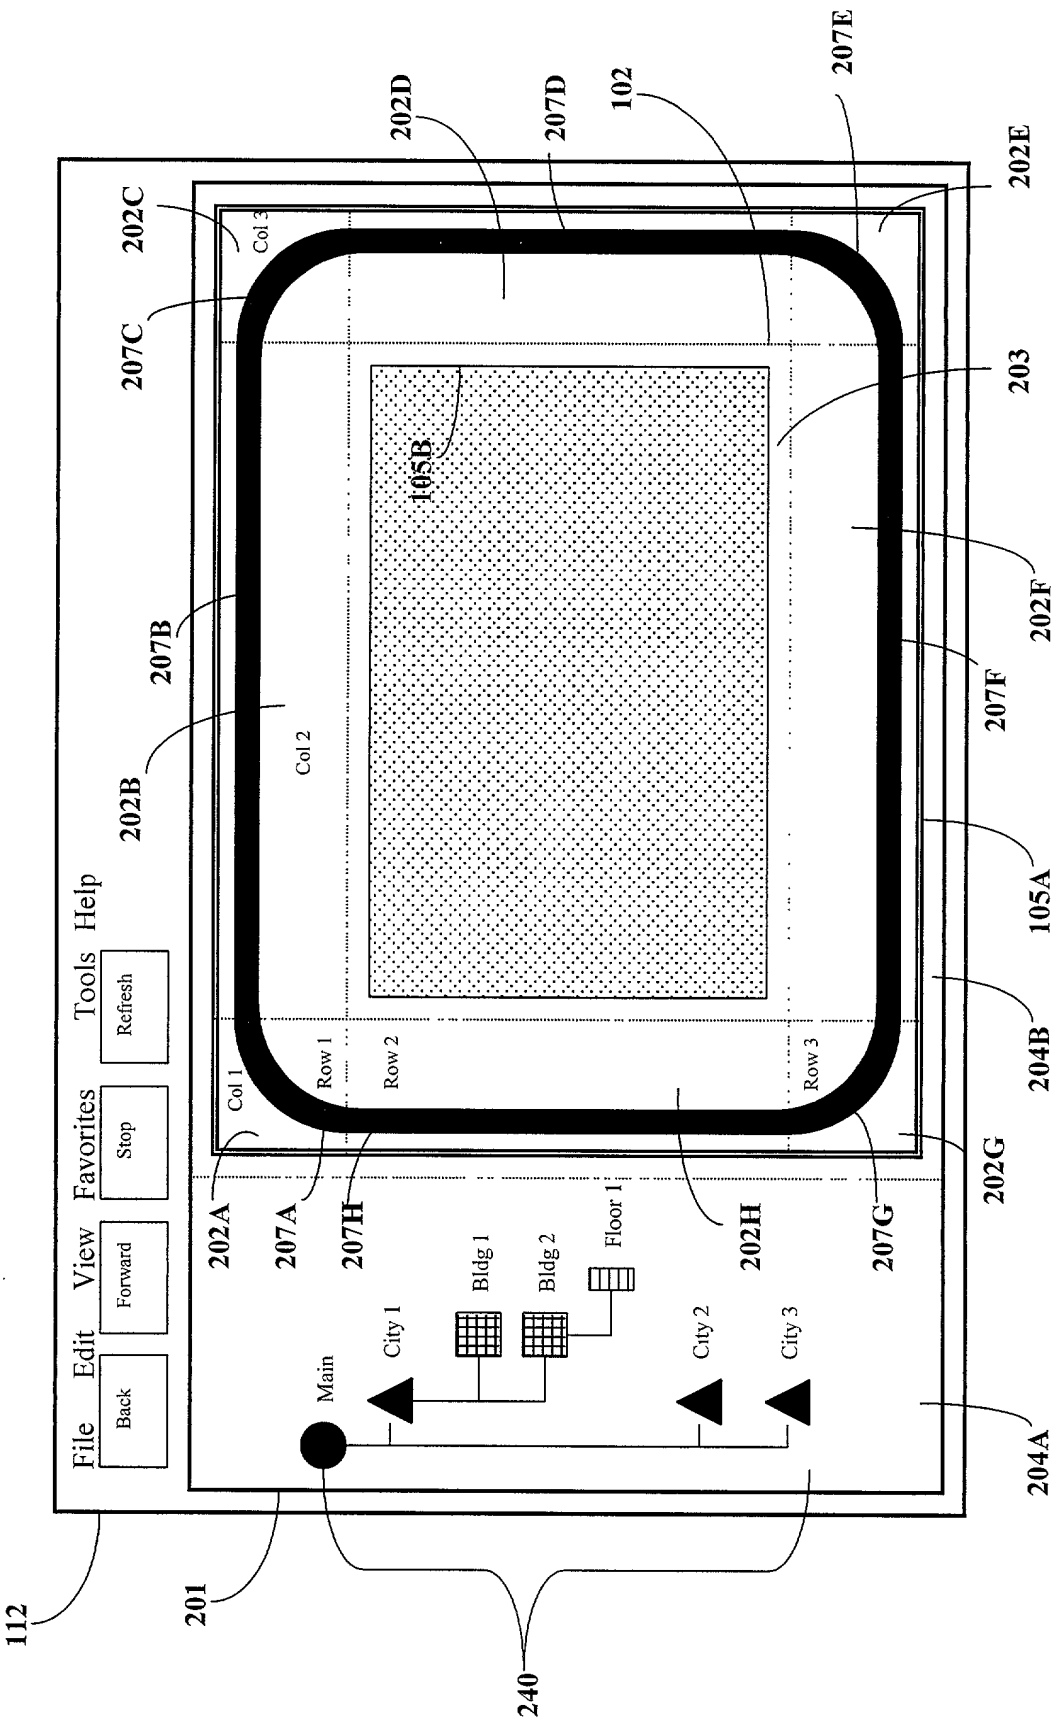

FIG. 2
FIG. 2 is a schematic diagram of a user interface for a data visualization application. The interface includes a menu bar (112) with options: File, Edit, View, Favorites, Tools, and Help. Below the menu bar is a toolbar (201) containing buttons for Back, Forward, Stop, and Refresh. The main display area (202) is divided into a header section (202A) and a content section (202B). The header section (202A) contains a navigation pane (207A) with a tree view showing a hierarchy: Main (selected), City 1, City 2, and City 3. City 1 is expanded, showing Bldg 1, Bldg 2, and Floor 1. The content section (202B) displays a data table (102) with a grid of data points. The table has three columns (Col 1, Col 2, Col 3) and three rows (Row 1, Row 2, Row 3). A large rectangular area (105B) is overlaid on the data table, representing a selected region. The interface also includes a status bar (204) at the bottom, which displays the current view (204A) and the selected region (204B). The status bar is divided into sections (204A, 204B, 204C, 204D, 204E, 204F, 204G, 204H) for different types of information.